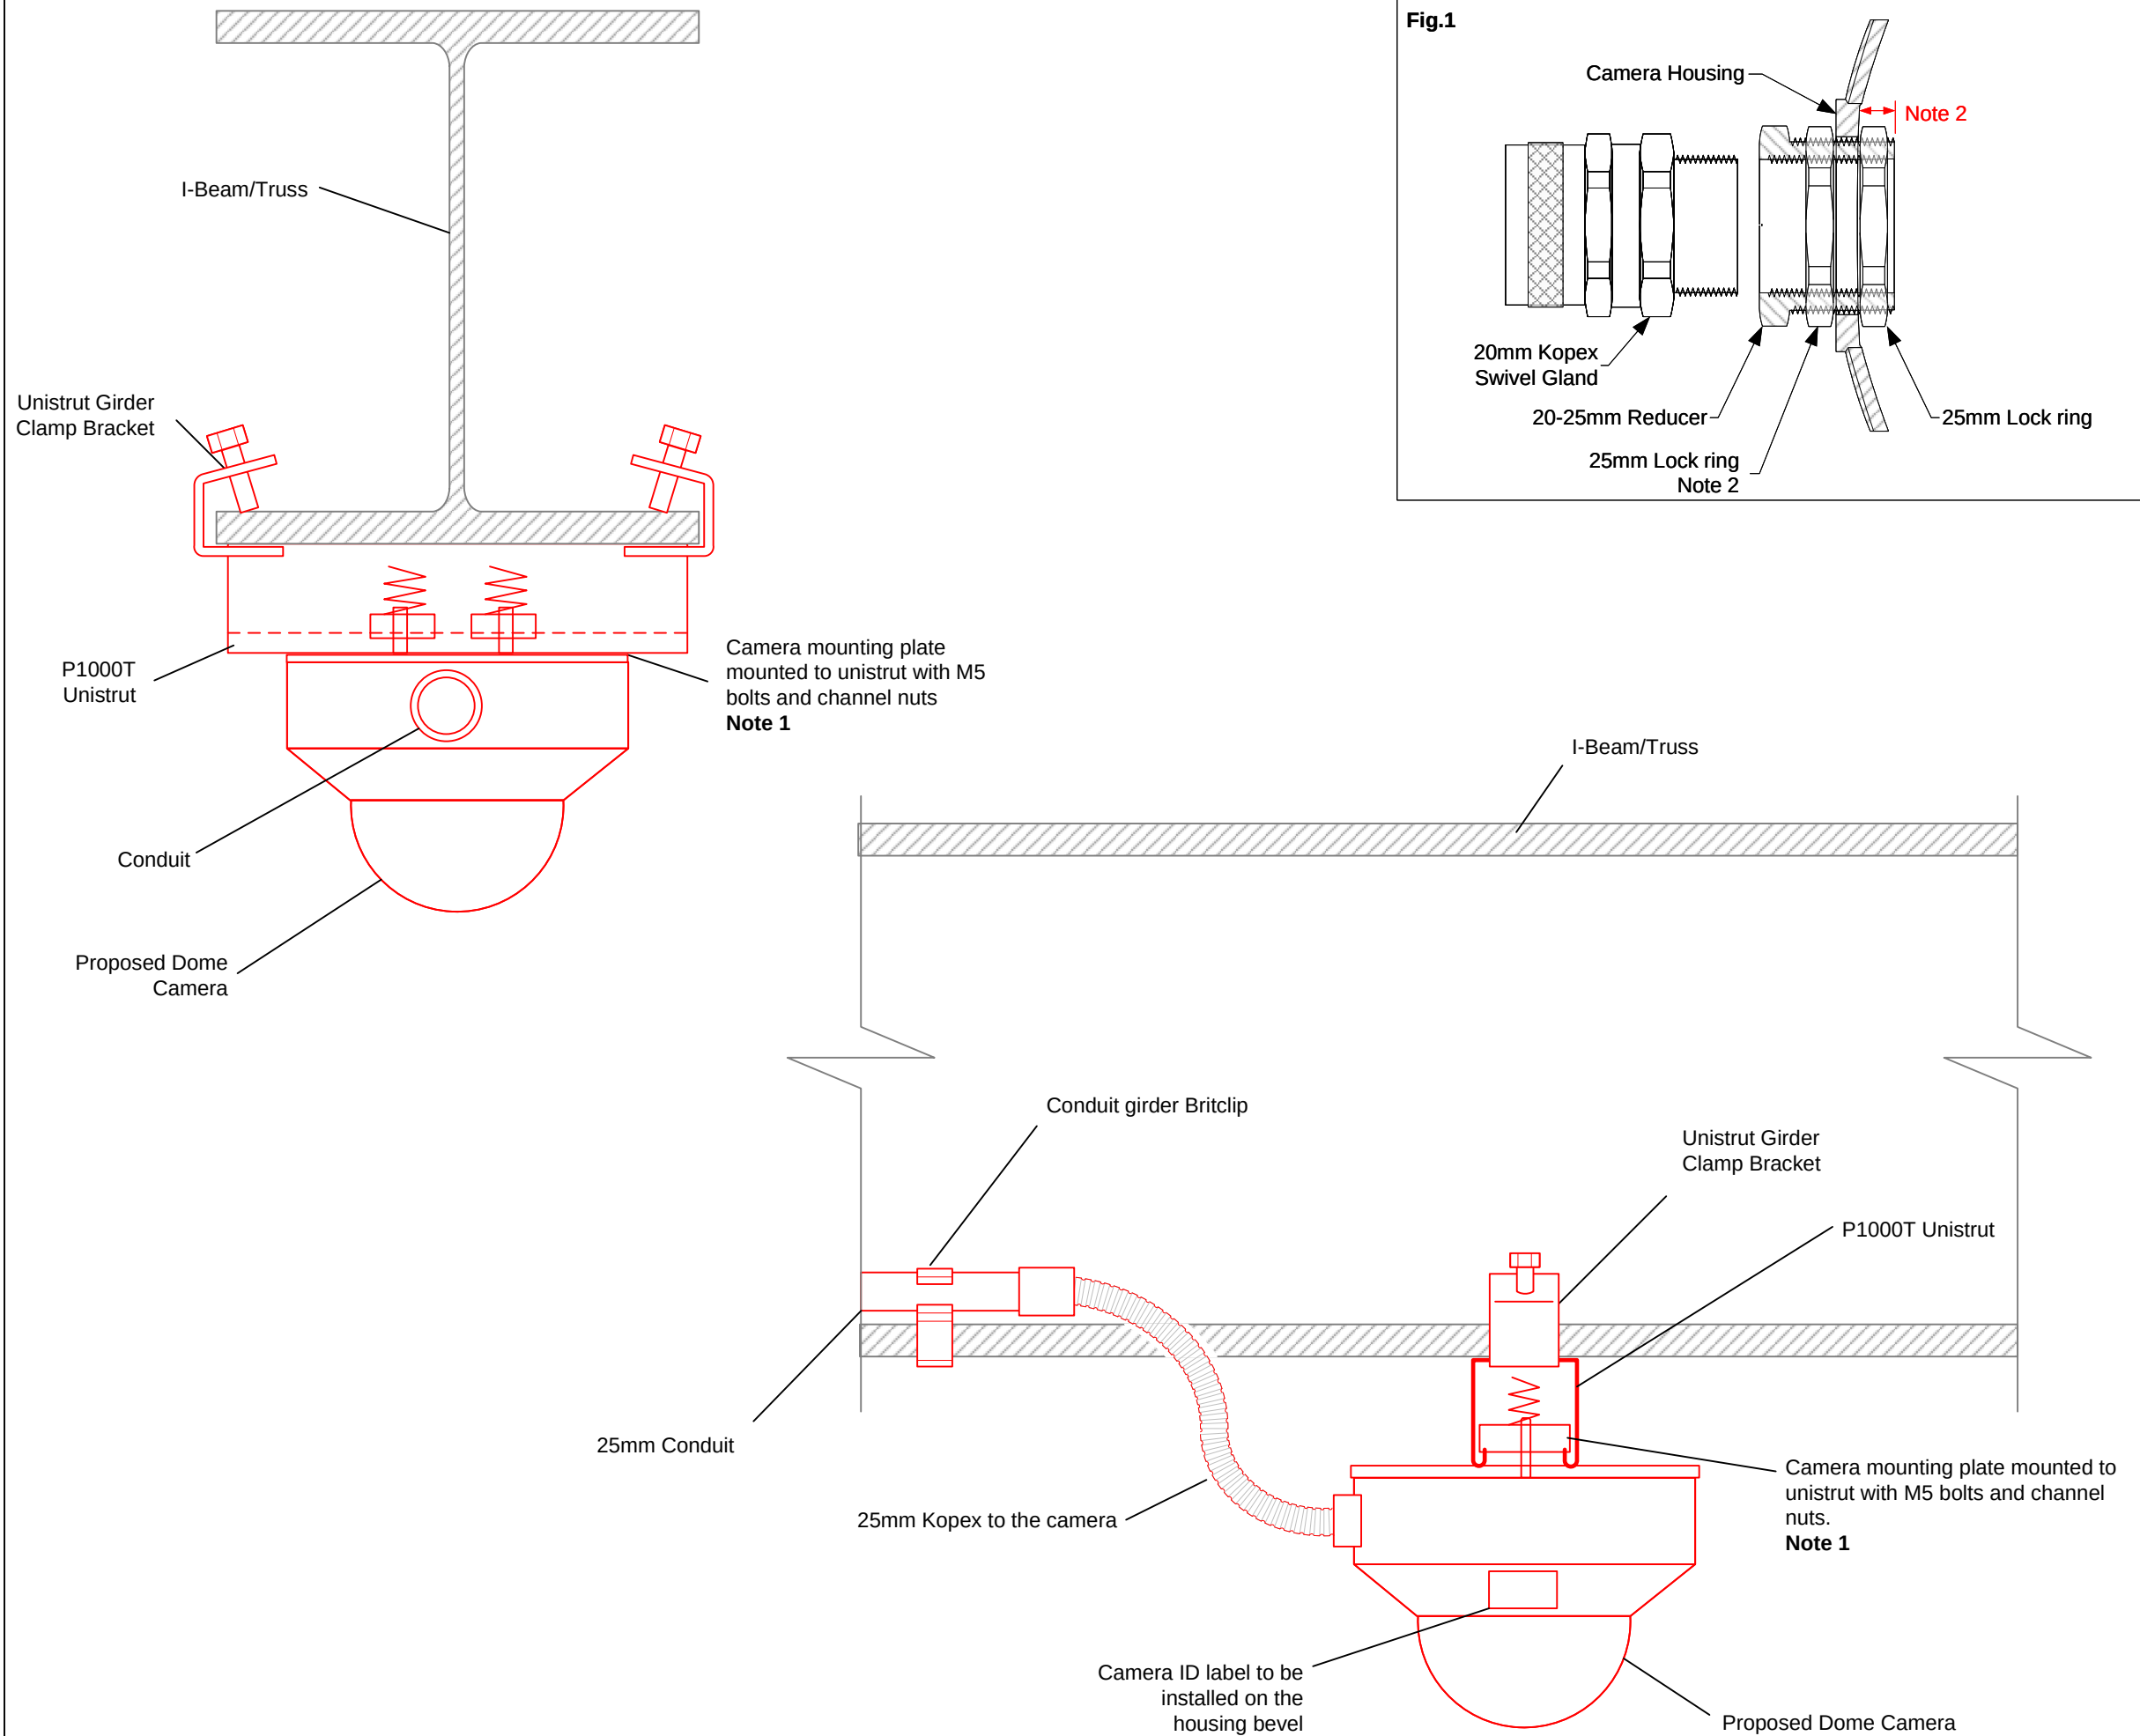

Fig.1
2. Within the camera housing there is insufficient clearance for a gland or reducers threads and a lock bolts. Therefore a second locking is to be installed on the outside of the housing to ensure no more than 7mm of the reducer protrudes within the housing. See **fig.1**.